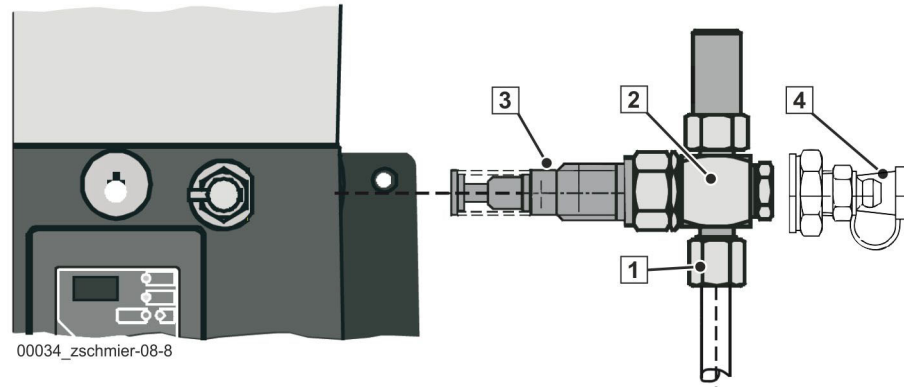

Fig. 477
- Remove the main lines (1) (**Fig. 477**) from the male connector (2) (**Fig. 477**) on the pump elements (3) (**Fig. 477**)
Furthermore, “emergency grease nipples” (4) (**Fig. 477**) are available on the male connectors of the pump elements.